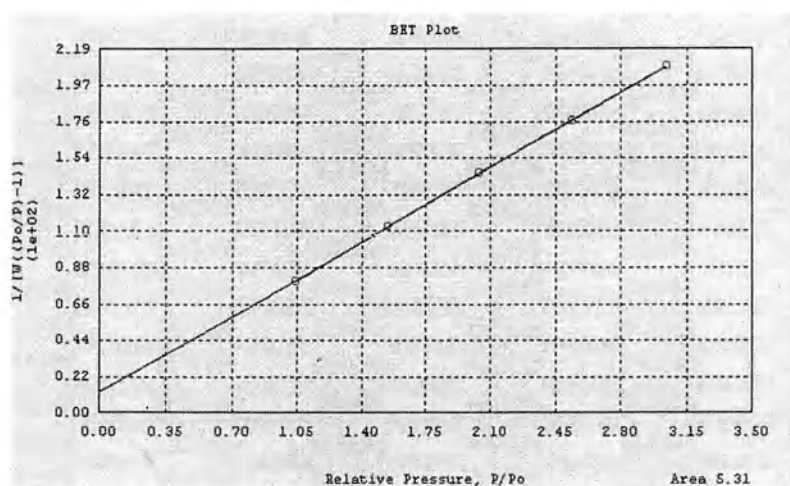

Fig. II-1. Typical BET plot.
The BET equation (1) requires a linear plot of  $1/[W(P_0/P)-1]$  vs P/P0 which for most solids, using nitrogen as the adsorbate, is restricted to a limited region of the adsorption isotherm, usually in the P/P0 range of 0.05 to 0.35. This linear region is shifted to lower relative pressures for microporous materials. A typical BET plot is shown in Figure II-1.